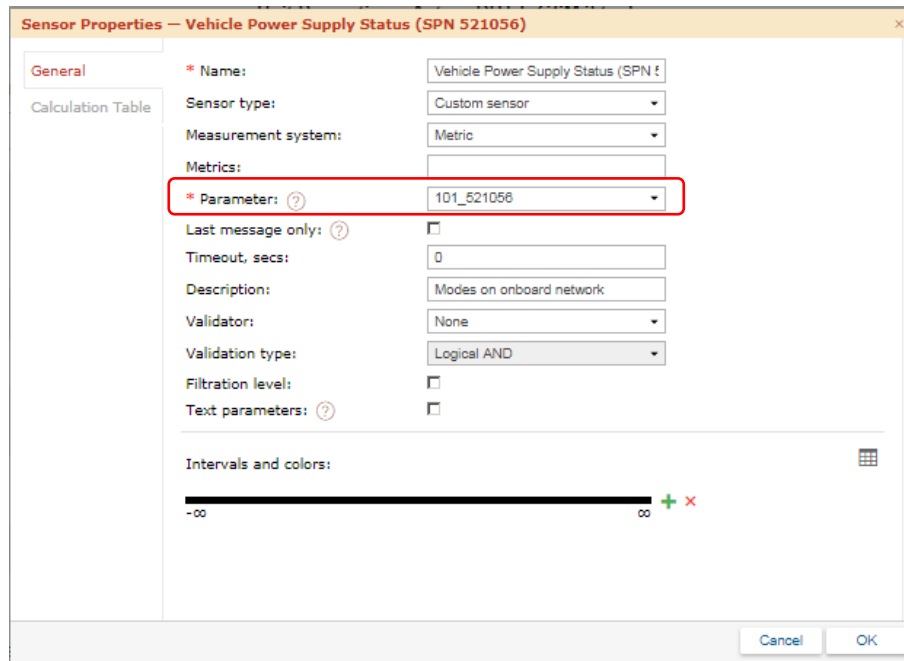

Figure 5 – Sensor Properties window, Vehicle Power Supply Status settings
5) Using Sensor Properties menu, enter "101_521056" value in Parameter field (see figure 5). The value corresponds to Vehicle power supply status sensor and means, that SPN 521056 parameter source is a Unit, which has 101 network address (NA) i.e. DUT-E GSM.